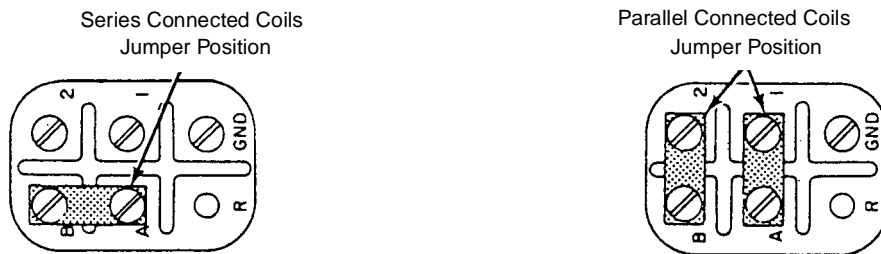

Figure 3. Coil Connection Jumper Position
The coil wiring must be connected as defined in Table 2. To set the coil connection for series or parallel see Figure 3.
1. Check that the coils are wired as shown on the flowtube data plate (S = series or P = parallel). See Figure 3 for jumper positions.